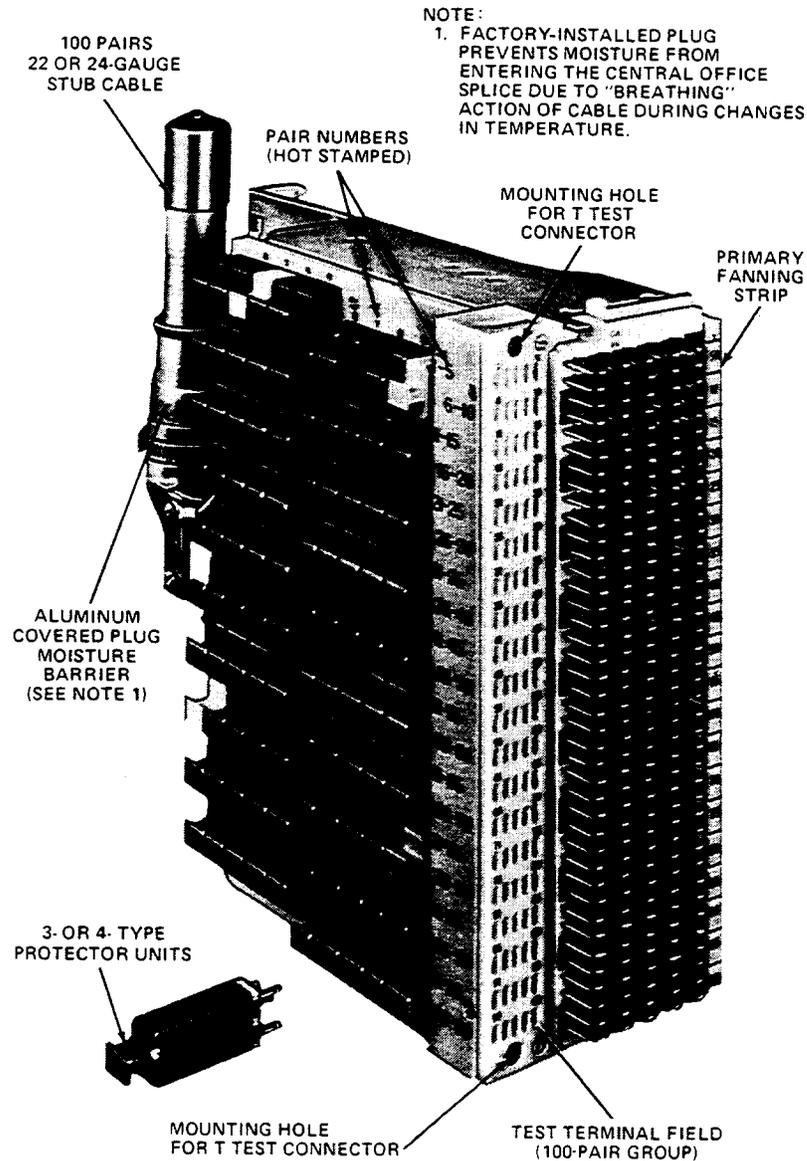

**Figure 16—311-Type Connector**
**6.02** The 311-type connector (Figure 16) is a high density, angled mounting connector used to